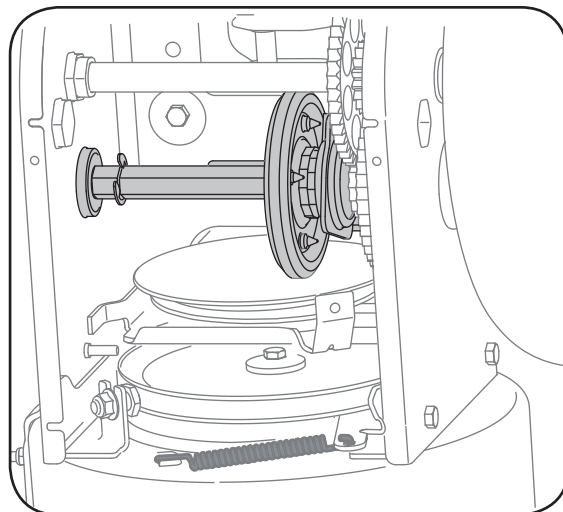

Figure 7
2. Apply a light coating of an all-weather multi-purpose grease to the hex shaft. See Figure 7.